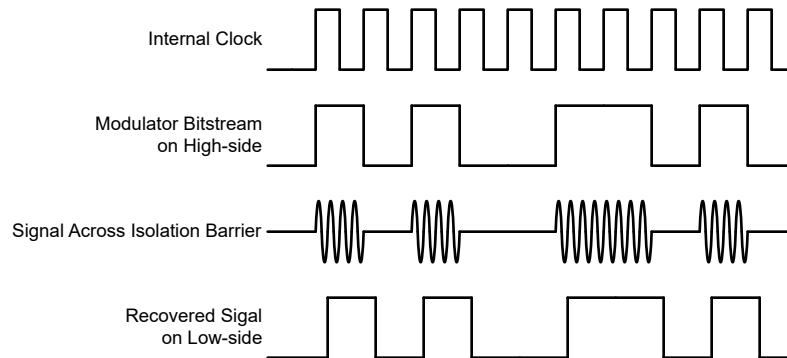

图 7-1. OOK-Based Modulation Scheme
The AMC1301 uses an on-off keying (OOK) modulation scheme, as shown in 图 7-1, to transmit the modulator output bitstream across the SiO₂-based isolation barrier. The transmit driver (TX) shown in the Functional Block Diagram transmits an internally generated, high-frequency carrier across the isolation barrier to represent a digital *one* and does not send a signal to represent a digital *zero*. The nominal frequency of the carrier used inside the AMC1301 is 480 MHz.